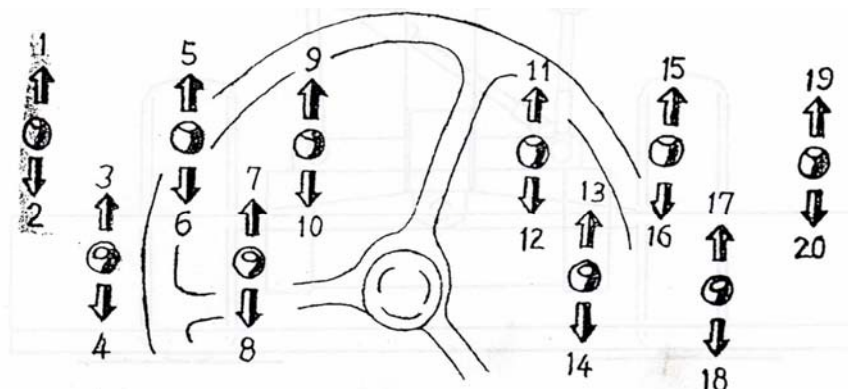

Fig. 19
- a) If turn from horizontal position 3 to 1 or 2, operate according to the directions 2, 14 and 19 shown in Fig. 19 to retract swing cylinders completely;
- b) If turn from horizontal position 3 to 4 or 6, operate according to the directions 1, 13 and 20 shown in Fig. 19 to extend swing cylinders completely;